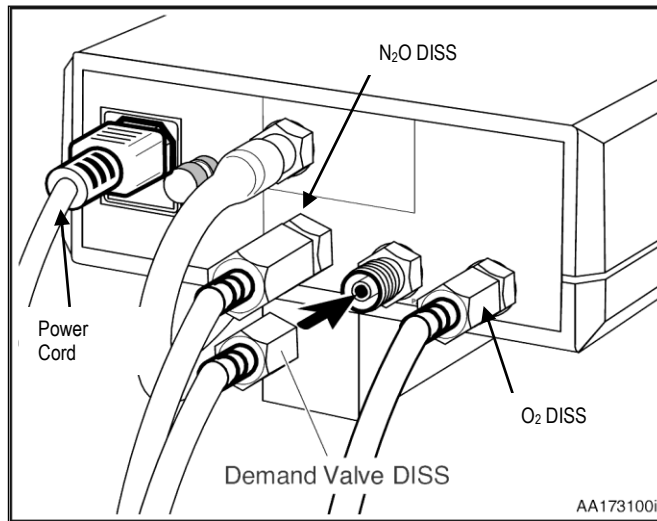

Figure 3. Connection to the back of unit.
1. Connect the DISS female hexagon fitting of the nitrous oxide hose to the male DISS, N₂O INLET, fitting on the back of the mixer head (see Figure 3). Hand-tighten and then finish tightening with a 7/8" inch open end wrench (approximately 1/8 turn). *Do not over-tighten.*
2. Connect the DISS female hexagon fitting of the oxygen hose to the male DISS, O₂ INLET, fitting on the rear of the unit (see Figure 3). Hand-tighten and then finish tightening with a 11/16" inch open end wrench (approximately 1/8 turn). *Do not over-tighten.*
An optional Demand Valve Resuscitator for emergency oxygen resuscitation is available from Matrix (PN 91505085) and connects directly to the O₂ outlet (Figure 3) on the rear of the unit.